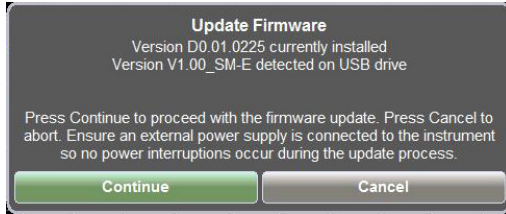

Figure 11-8. Update Firmware Message
6. Press the **Preset (1)** key.
7. Under the **Reset** submenu press **Update Firmware**. The **Update Firmware** dialog (Figure 11-8) appears.